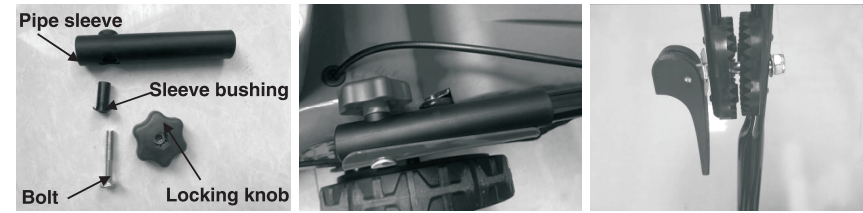

Fig. 2A
1. Fix the lower handlebars into the mower body with pipe sleeve, sleeve bushing, bolts and locking knobs. (Fig. 2A/ Fig.2B)